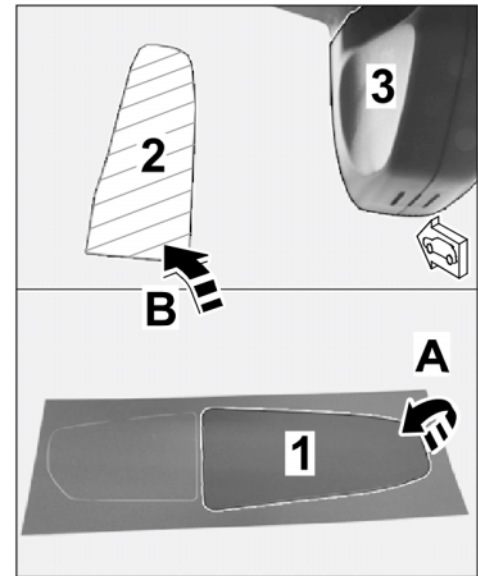

Figure 9
2.2.1 Pull 3M privacy film off the backing sheet (⇒ *Figure 9-A*).
2.2.2 Position 3M privacy film on the marked bonding surface on the windshield (⇒ *Figure 9-B*).